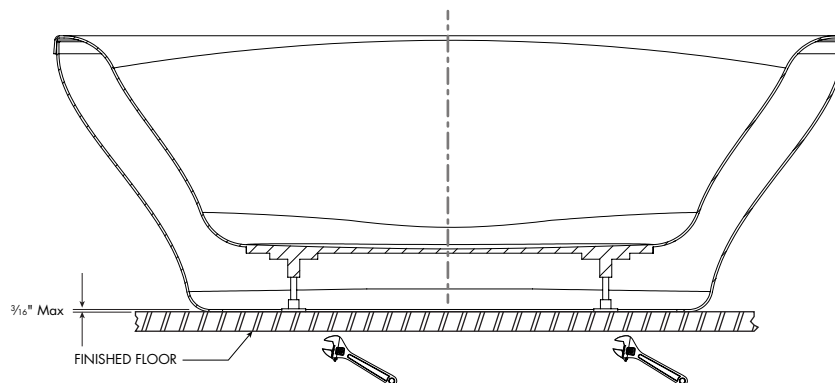

Figure 2
5. Using the adjustable feet on the underside of the tub, ensure that the tub is level with a slight gap between the tub base and the floor. Use a wrench to secure the heights for a level tub. Gap shall not exceed $3/16$ ". (See Figure 2)